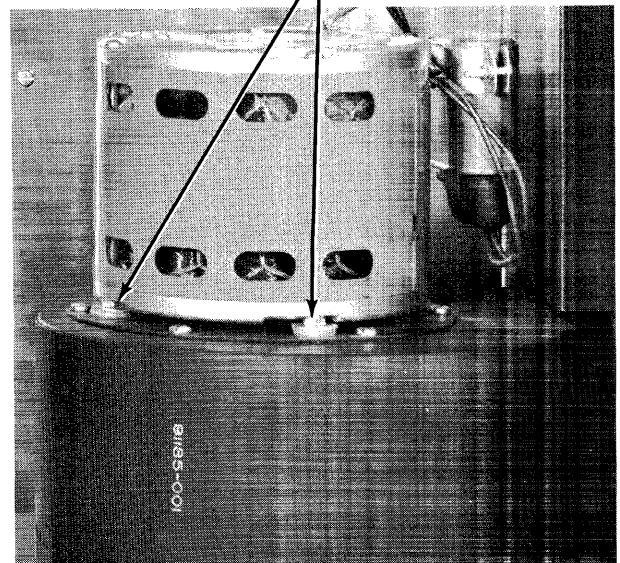

Figure 5-81. Blower Motor Screws
- Remove four bolts fastening blower motor (see Figure 5-81).